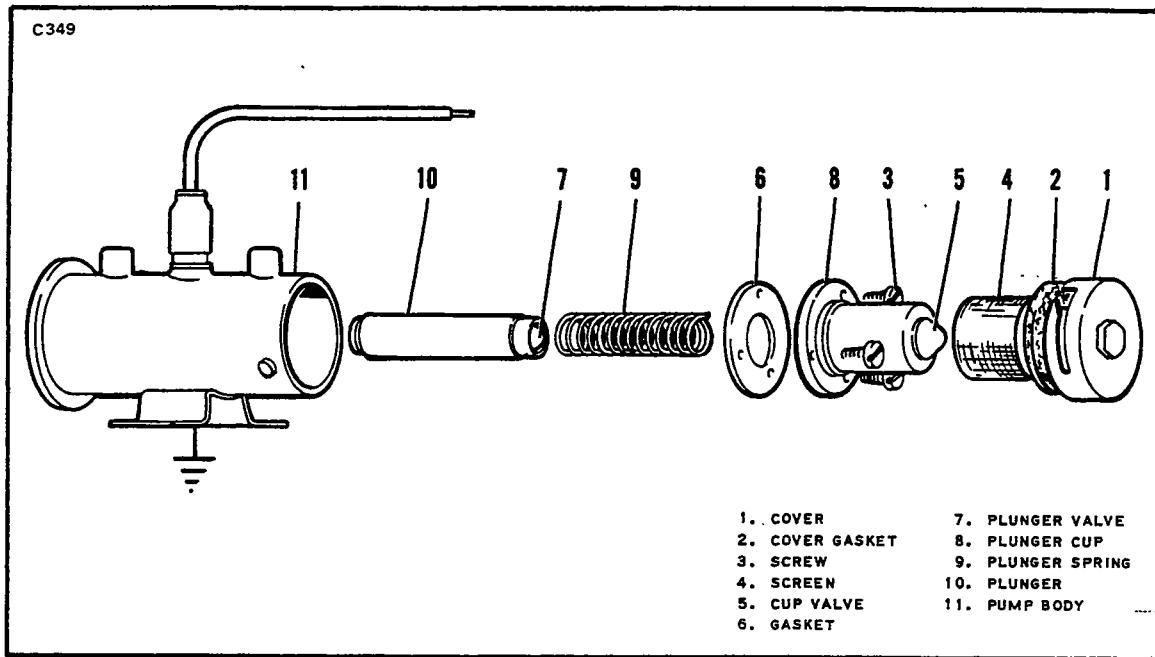

Figure 9-11. Plunger Fuel Pump (Early)
a. Early Type Pump: (Refer to Figure 9-11.)
- a. Later Type Pump: (Refer to Figure 9-11.)
1. Insert the plunger assembly (10) in the tube with the buffer spring end first. Check fit by slowly raising and lowering the plunger to stick. If a click cannot be heard, the interrupter assembly is not functioning properly in which case the pump should be replaced.